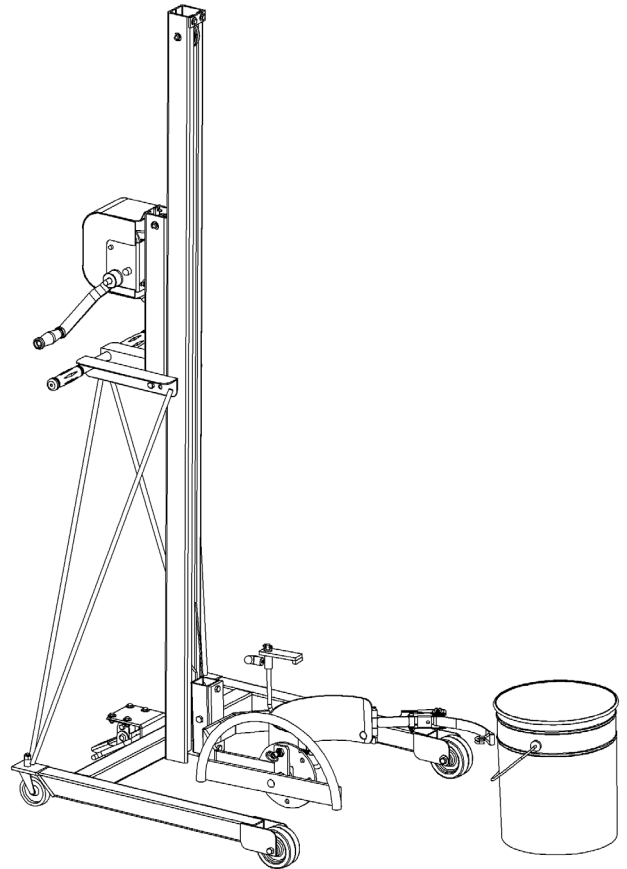

Figure 1
2. Using cable winch, crank handle to position pail holder with back band at middle of pail (see Figure 1). If pail has pivoting handle, swing it to lay on front side to clear can holder back band. With ratchet strap swung open, push unit forward until back band rests firmly against pail. Engage floor lock to prevent pail handler from moving.